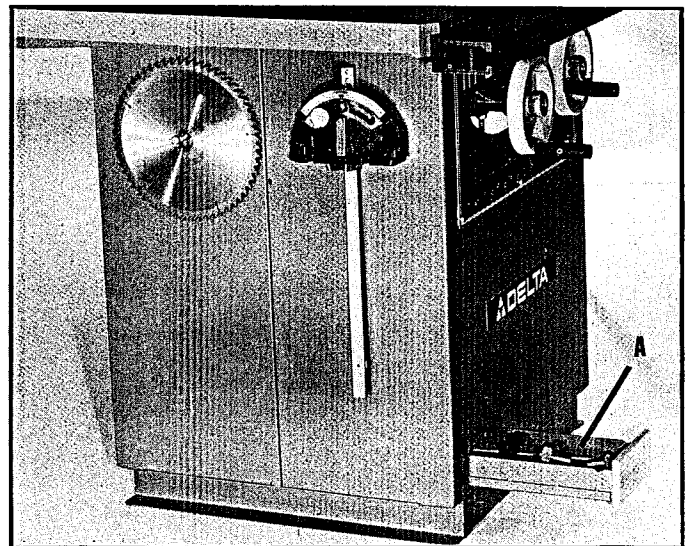

Fig. 75
Built into the saw cabinet is a handy tray for storing miscellaneous saw accessories (A), Fig. 75. Miter gage, saw blades and other accessories may be stored on the side of the saw cabinet.